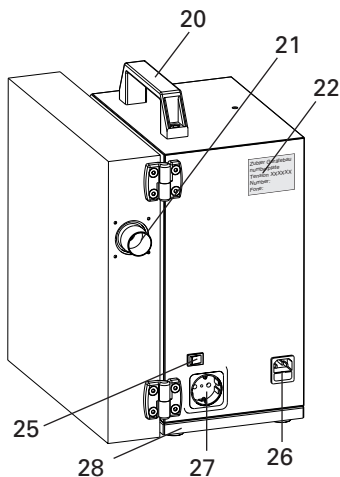

Fig. 0.2: V4010 back view
Plug in the power cord of the technical gear (e.g. handpiece) into the automatic socket (27) (Fig.0.2) of the suction unit. The max. load may not exceed 450W !
- If the external sensitivity switch (25) (Fig. 0.2) is on level II the suction unit will run continuously, even if the handpiece is not actuated. (Sensitivity too high)